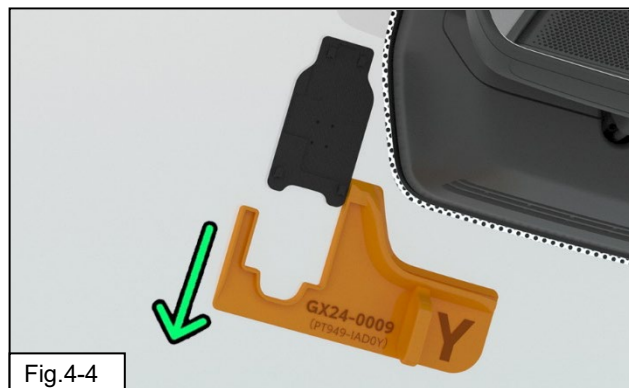

Fig. 4-4
- (f) Remove the 3D hard template by gently pulling towards the base of the windshield (wiper cowl area) to slide it out from under the TSS cover. (Fig. 4-4)